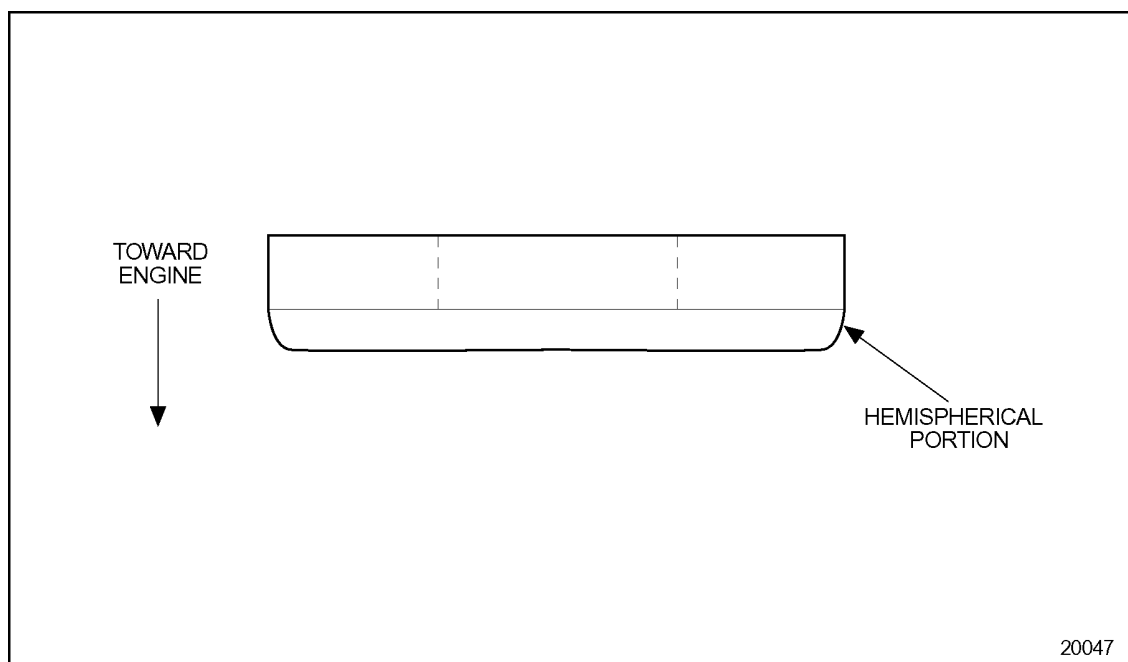

Figure 2-11 **Hold-down Crab Washer Installation**
The hemispherical portion of the hold-down crab washers must be installed facing the crab (pointing down) in order to prevent damage to the washers. See Figure 2-11.
12. Install the hold-down crab, hemispherical crab washer (flat surface up against bolt) and hold-down bolt to the injector. See Figure 2-11. Be sure that the clamp does not interfere with the injector follower spring or valve springs.